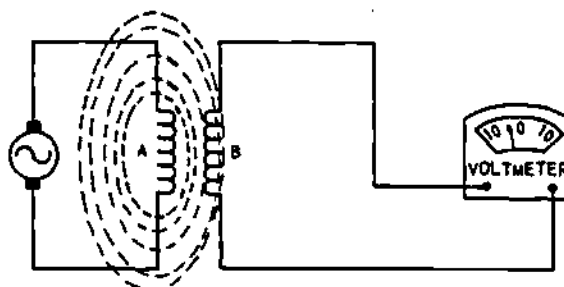

Figure 4-2. Mutual Induction
4-6. In figure 4-2, a second coil is placed within the range of the expanding and collapsing field of the first coil. The moving magnetic field around coil A cuts across coil B inducing a voltage across coil B which causes a current to flow in the voltmeter. This effect between two inductances is called **MUTUAL INDUCTION** and the inductance shared by the two coils is called their **MUTUAL INDUCTANCE**. Two circuits so placed that energy is transferred by magnetic linkage and having no physical connection between coils, is said to be inductively coupled. The symbol for mutual inductance is the letter M and the unit of measure is the henry (H).